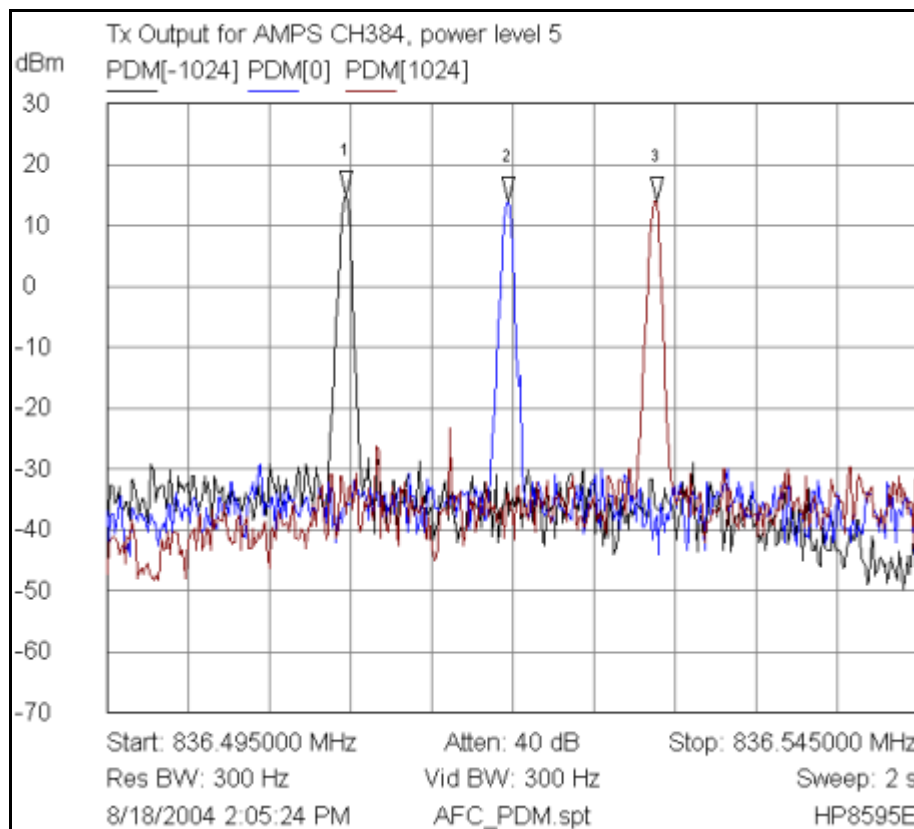

Figure 44: Tx Output for AMPS channel 384, power level 5
2. Measure the DC voltage at R7205. The following typical voltages are shown in Figure 44.